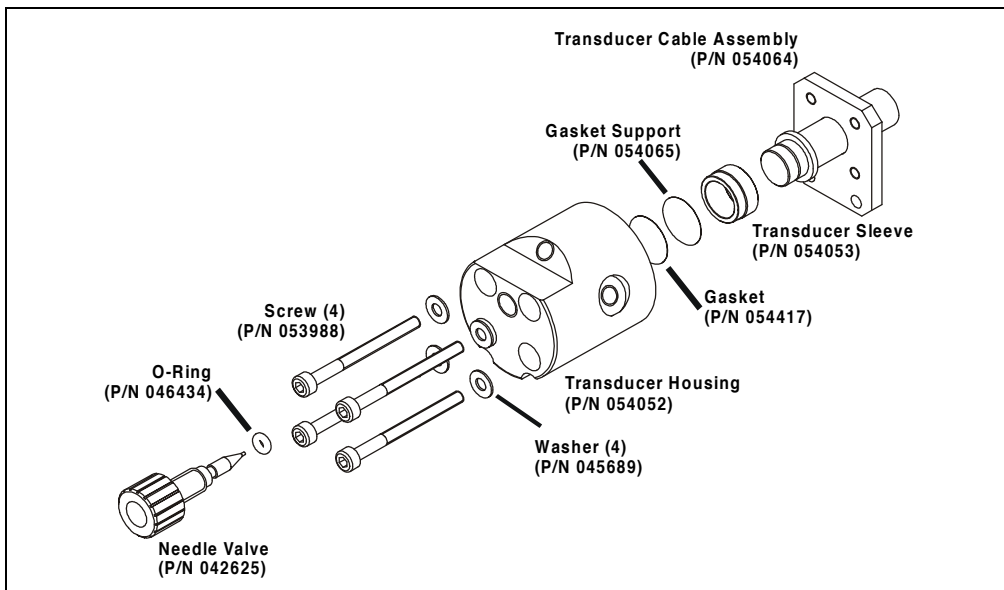

Figure 5-6. Pressure Transducer Assembly
3. Remove the O-ring (P/N 046434) (see Figure 5-6).